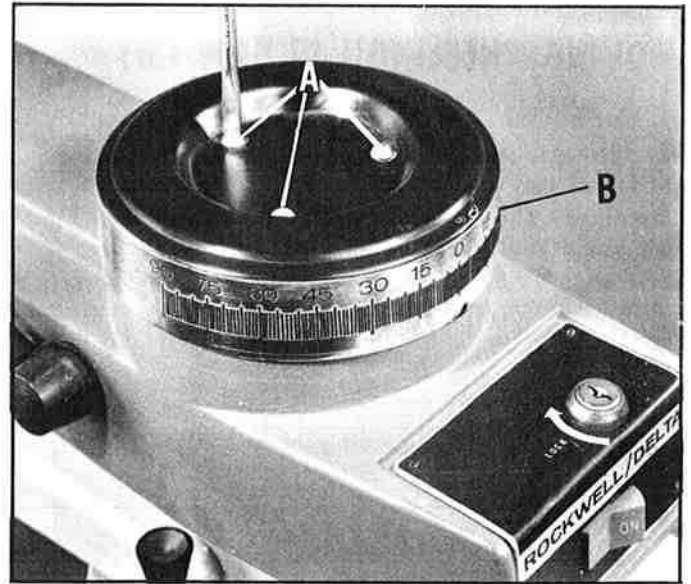
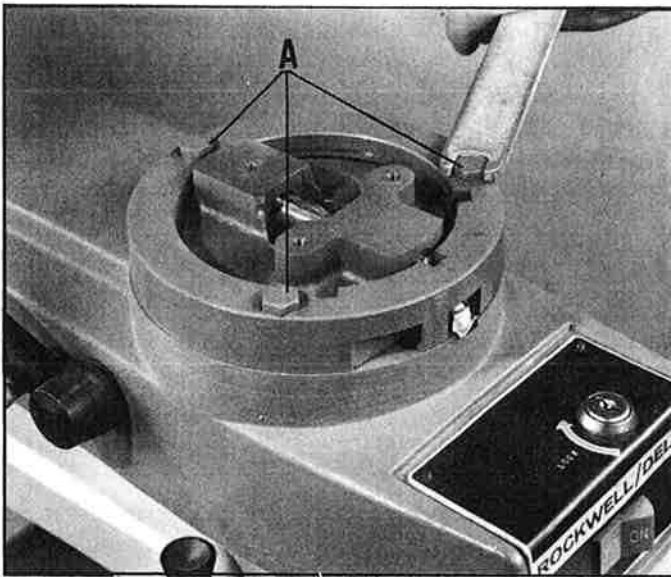

Fig. 27
Fig. 28
3. Remove three screws (A) and miter scale (B) Fig. 27.
4. Loosen three screws (A) Fig. 28, and loosen track-arm clamp handle.
6. When the cuttinghead travels parallel to the square, tighten three screws (A) Fig. 28. Replace bevel scale (B) and three screws (A) Fig. 27, with the zero graduation mark on the scale lining up with the pointer.